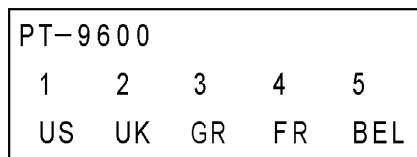

Fig. 4
- (2) Press the “RET” key. The display shifts to one as shown in Fig.4.